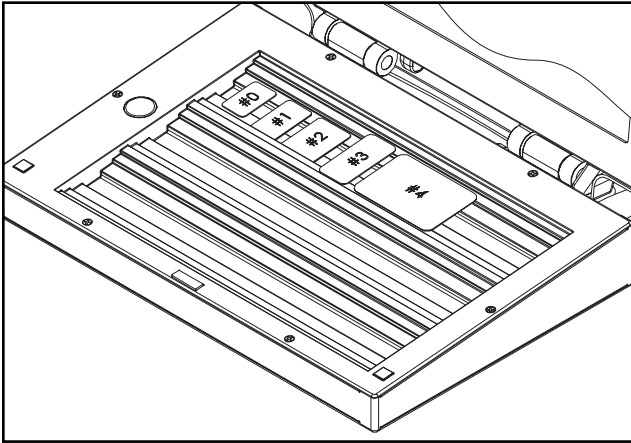

FIG. 3: SUGGESTED PSP ORIENTATION
2. Place Phosphor Storage Plates (PSP's) on **A/T SCANX[®] ERASER** tray with blue or white side of PSP's facing up as suggested in FIG. 3 - 8.